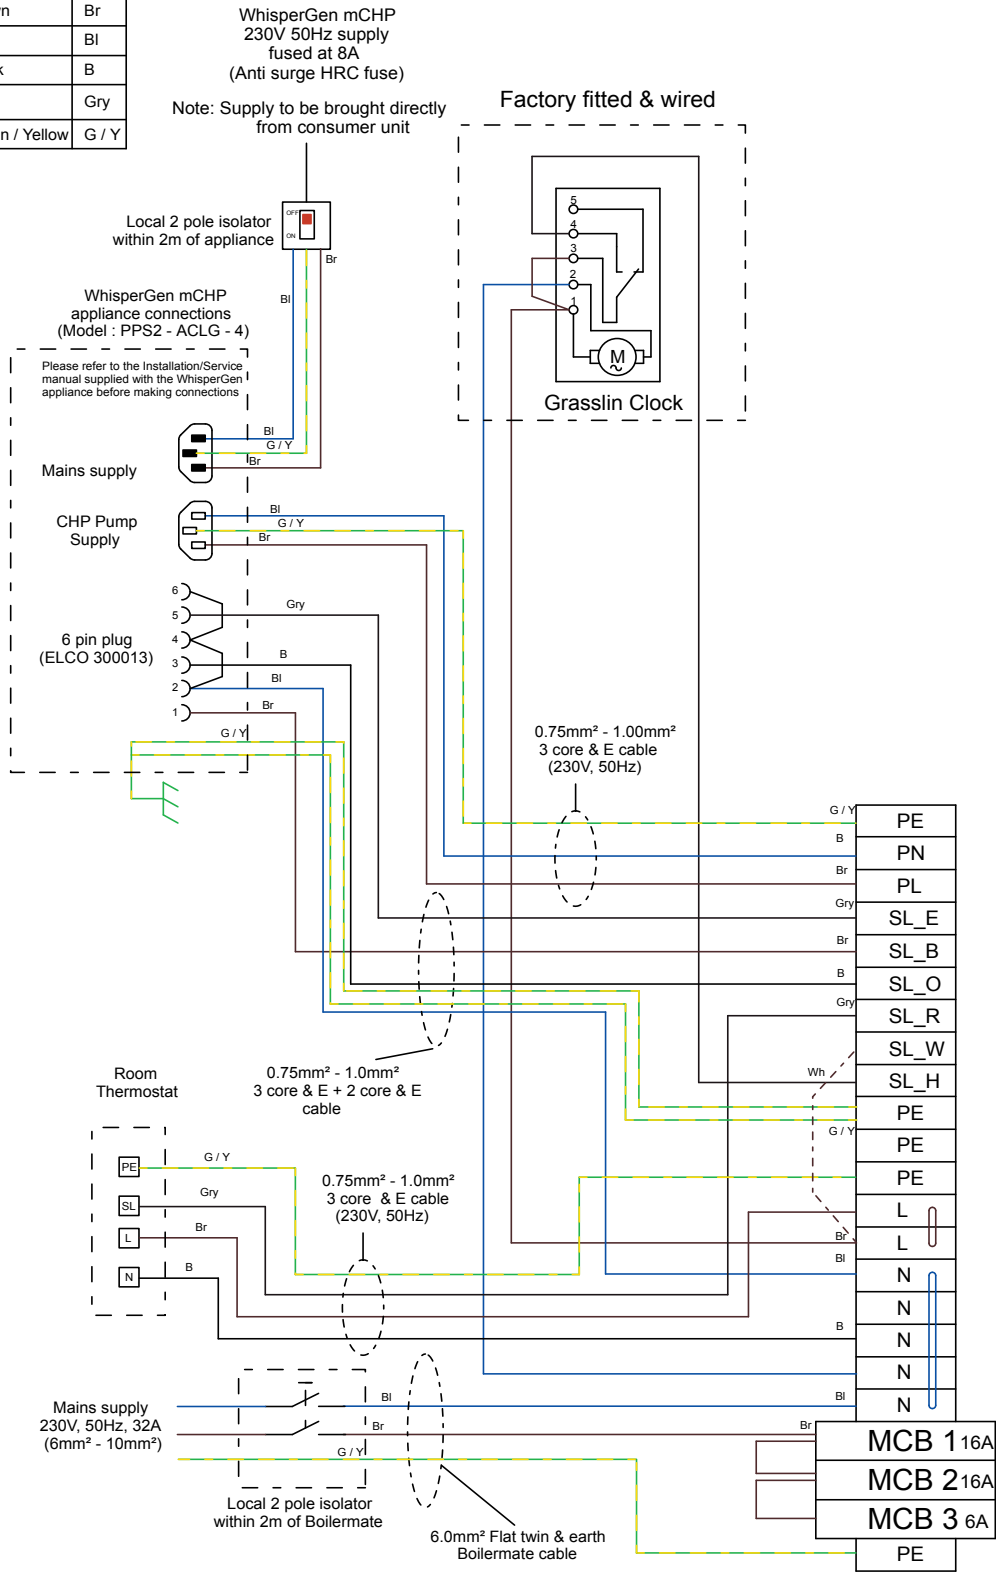

Figure 5.5 Contols and mCHP wiring diagram for 'N' and 'R' models fitted with programmer
The appliance circuit diagrams are shown in figures 3.7 – 3.12 and the external wiring terminal details are shown in figures 5.5 and 5.6 and all external controls and equipment must be wired to these terminals. The mCHP unit manufacturers wiring instructions should be read in conjunction with this manual before commencing the wiring process.
The mCHP BoilerMate is supplied with a pre-wired 2m long twin + E cable rated at 32A. Connect this cable to the local BoilerMate isolator (See figure 5.5)
These terminals should be wired to the appropriate connection/terminals of the mCHP unit as per manufacturer's installation manual. The wiring arrangement for the WisperGen mCHP unit is shown in figure 5.5.
If necessary these terminals should be wired to the appropriate connection/terminals of the mCHP unit as per manufacturer's installation manual. The wiring arrangement for the WisperGen mCHP unit is shown in figure 5.5.
labelled 'PL', 'PN' and 'PE'. This will transfer the control of the pump from BoilerMate to the mCHP unit. The wiring arrangement for the WisperGen mCHP unit is shown in figure 5.5.
- (e) mCHP_BoilerMate is supplied with a single channel heating and hot water programmer. Therefore only room thermostat wiring is required. The room thermostat wiring should be connected to terminals 'L2', 'SL-R', 'N' and 'E' as shown in figure 5.5